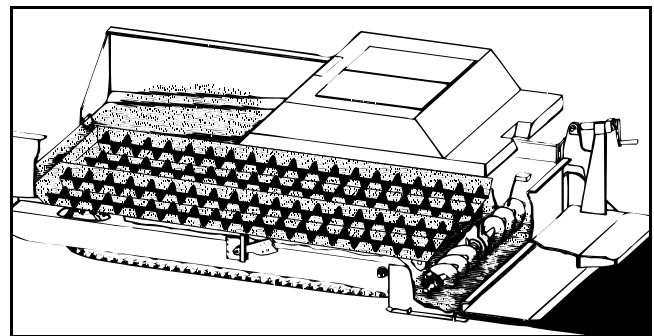

Figure 4 - 37 Shaded areas to be sprayed down daily
- 3) Start cleaning at the truck hook/push rollers and work your way to the rear of the machine cleaning the hopper wings, remix augers, hopper gates, spreading augers, screed bottom, end gates, strike-offs, etc. (Figure 4 - 37)